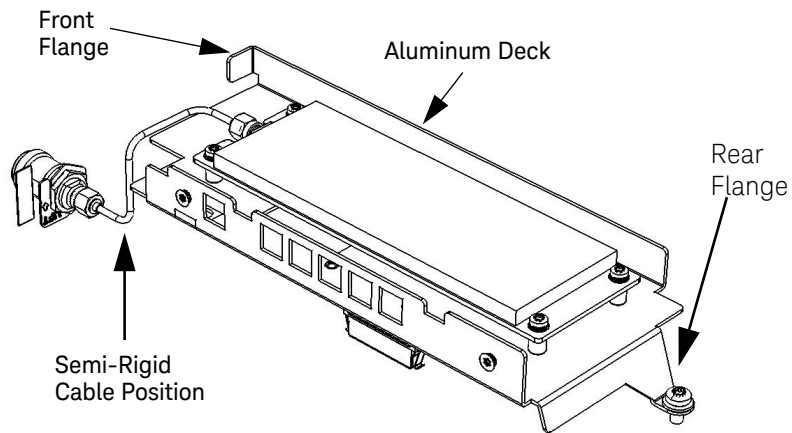
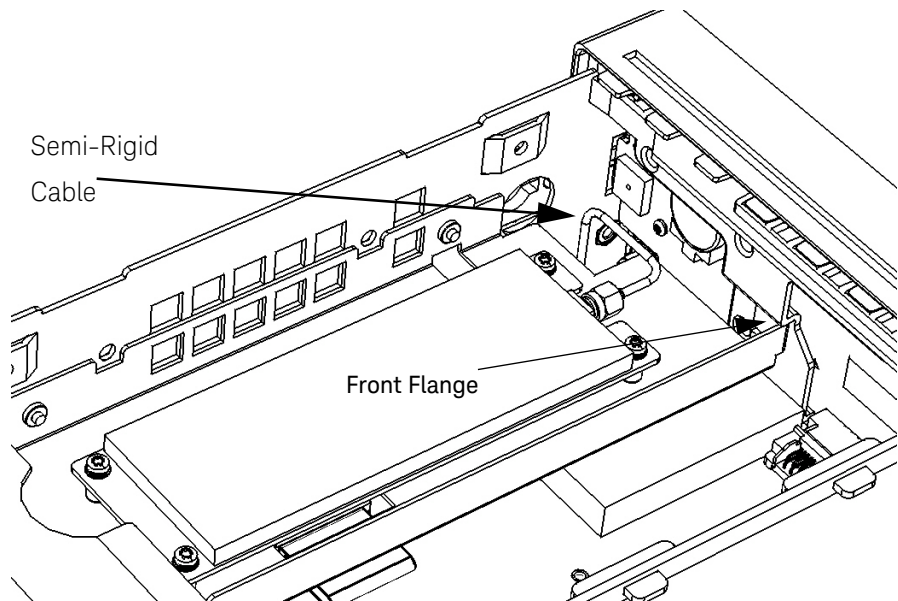

Figure 4-8 **53210A channel 2 front panel Option 106/202**
Figure 4-12 Semi-rigid cable position
Refer as necessary to **Figure 4-8**.
- 14 Connect the supplied semi-rigid cable to the SMA connector on the connector-adapter. Finger-tighten the connector so that the cable is positioned to connect to the Channel 3 assembly as shown in Figure 4-8 and Figure 4-12. Do not tighten the nut with a wrench yet.